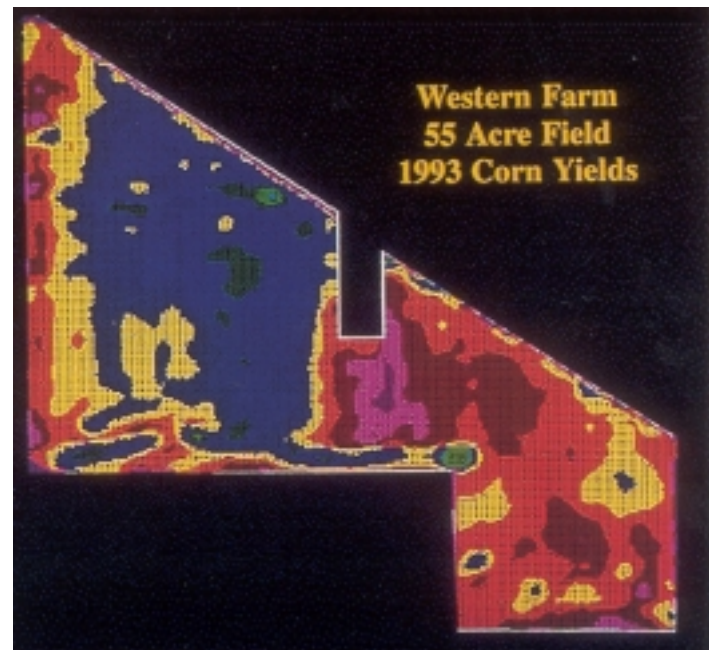

Figure 1. Typical yield map.
*Mobile yield monitors*, installed in combines, allow collection of site-specific yield data during harvesting. Yields can be displayed and/or stored for later analysis, including the creation of yield maps. Yield maps, such as shown in Figure 1, provide proof, offering: 1) site-specific response data, 2) ground truth for plans and models, and 3) a basis for adjustments in management. Furthermore, GIS applications can be used to create map overlays, which will permit the study of relationships between yield and other mapped attributes such as soil type, soil fertility, weed populations, drainage, and other factors.